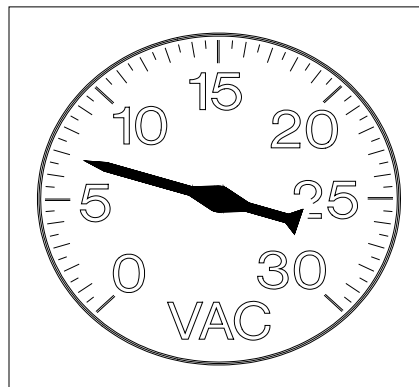

Figure 9
4. With the nozzle open, a normal vacuum reading is 6-8 inches of mercury for normal suction. See Figure 9.